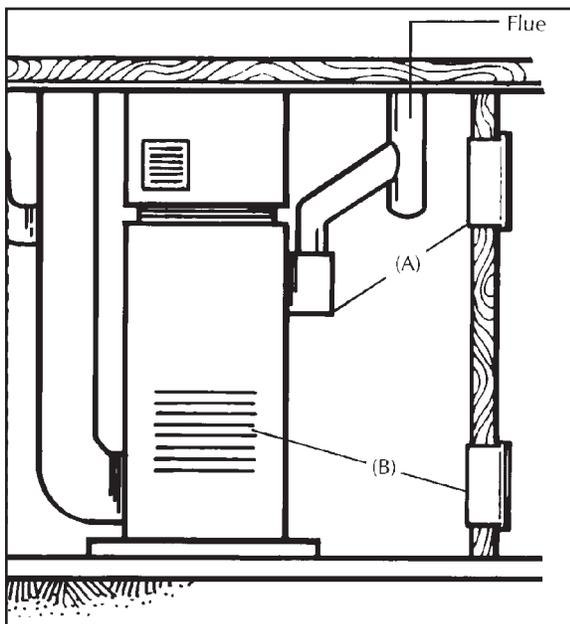

Figure 7.
If the floor area of the furnace compartment is less than two times that of the floor area of the equipment, the building code requires that ventilation air be supplied to the confined space through two openings (Figure 7). The first opening must be placed above the draft hood opening and must be 1-square-inch for each 2000 Btus-per-hour capacity of the furnace (A). For example, an 80,000 Btu/hour furnace would require a ventilation air grille of 40 square inches. There must also be an opening of the same size (B) at a point below the combustion air inlet on the furnace.